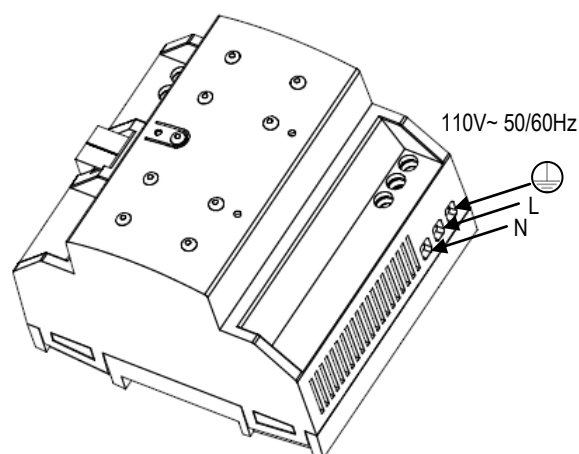

Figure 2: ZPS320MPA110 installation and connection
- Main power must be connected to L, N and ground terminals, in accordance with the schematic represented in figure 2.